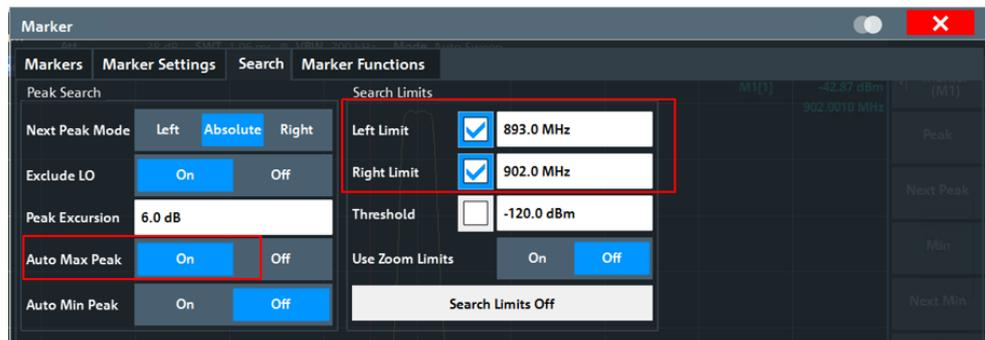

Figure 2-15: Definition of search range for maximum level value below ISM band
- In the *Search* tab, define a range (lower edge of the ISM band) for the marker-to-peak search. Set the *Auto Max Peak* function to *On* (Figure 2-15).